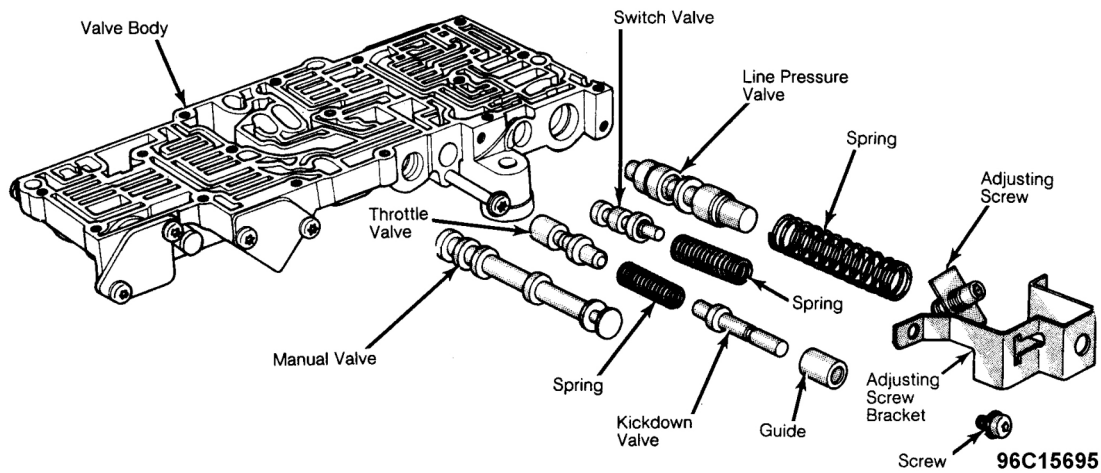

Fig. 10: Exploded View of Pressure Regulator & Manual Control Valves
4. Remove manual valve from valve body. Remove pressure regulator and adjusting screw bracket attaching screws. Lift off bracket and adjusting screws Slide out pressure regulator and manual control valve trains. See **Fig. 10** .